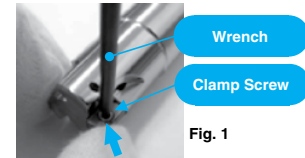
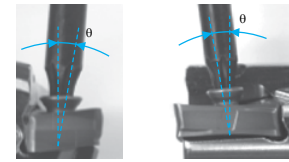

Fig. 1
Fig.2
- While lightly pressing the insert against the pocket walls, put the screw into the hole of the insert and tighten. (Ref. to Fig. 1.) Tighten M3 screws (SB-3065TRP) slightly inclined from the insert. (Ref. to Fig. 2.) surface of the insert.